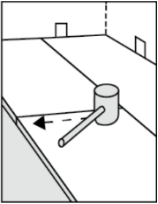

Figure 5
8. Place the short end tongue of the second plank into the groove of the first plank. Press down firmly to lock short end, preferably by lightly tapping on the joint with a rubber mallet. (**Figure 5**) Continue in this manner until reaching the final plank in the first row.
13. Press down firmly on end joint, preferably tapping with a rubber mallet to fully engage short end. (**Figure 5**)